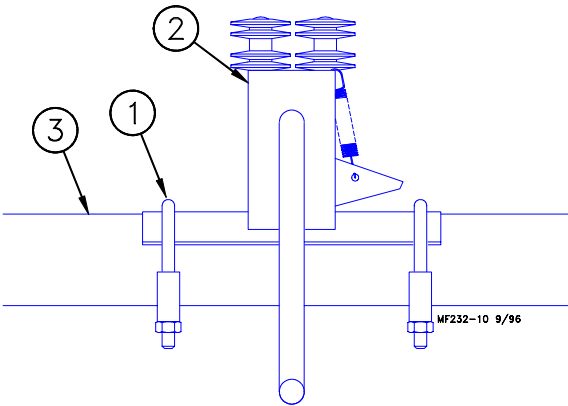

Figure 40. Winch Installation (side view)
1. Use two tube clamps provided to fasten the winch to the feeder line tube. See Figure 40.